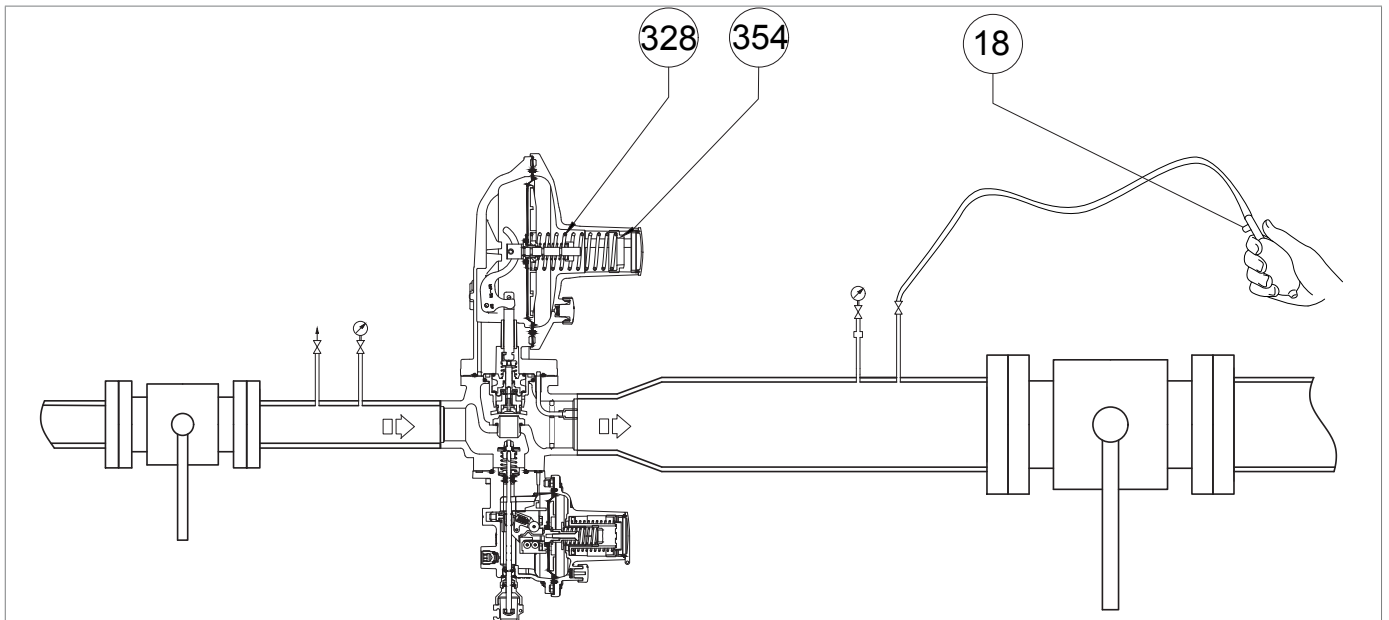
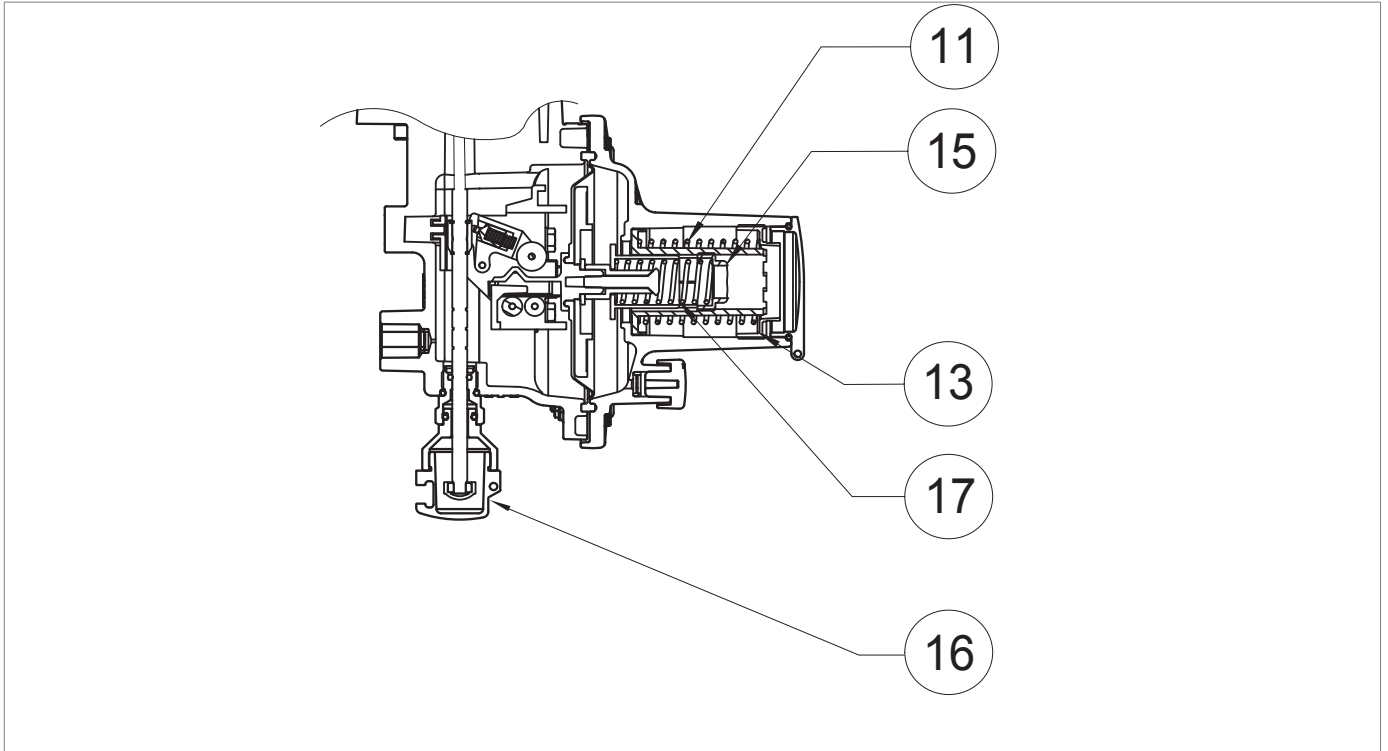
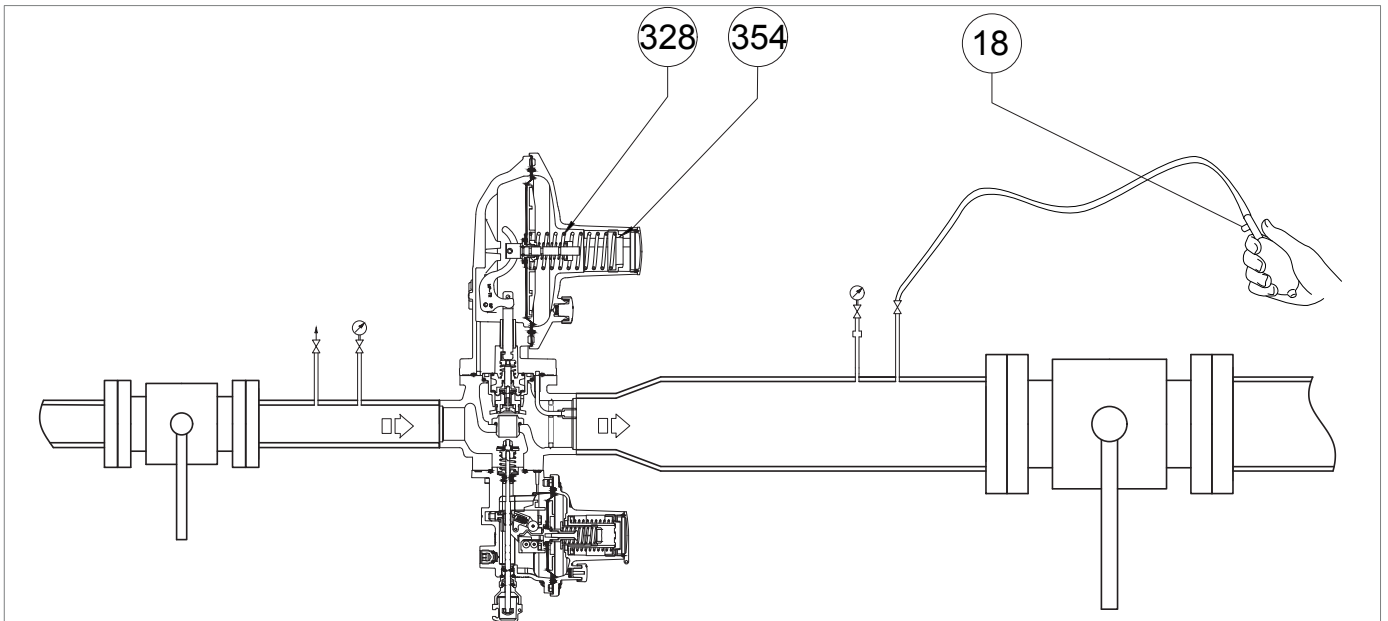

Fig. 8.22. Pressurising with external source for incorporated LA slam-shut valve
Fig. 8.20. Calibration of pressure switch for LA slam-shut valve
Fig. 8.21. Pressurising with external source for incorporated LA slam-shut valve
1	<p>Increase the downstream pressure to the tripping value of the slam-shut valve, connecting an external pressure source to the bleed cock (Fig. 8.20, ref. 6) placed on the downstream pipe, making sure to open an additional bleed cock (Fig. 8.22, ref. 18).</p> <div style="border: 1px solid black; padding: 5px;"> <p>! NOTICE!</p> <p>Check the pressure referring to the downstream pressure gauge (Fig. 8.20, ref. 5).</p> <p>If the slam-shut valve:</p> <ul style="list-style-type: none"> • trips before the expected pressure value: screw in (clockwise) the adjustment ring nut (13) so as to further compress the spring (11); • does not trip at the expected pressure value: unscrew (anti-clockwise) the adjustment ring nut (13) so as to relieve the spring (11). </div>
2	Decrease the pressure of the downstream section by opening the additional bleed cock (Fig. 8.22, ref. 18) to bring it up to the calibration value of the main regulator.
3	Close the additional bleed cock (Fig. 8.22, ref. 18).
6	Disconnect the external pressure source from the bleed cock (Fig. 8.20, ref. 6).
1	Partially open the bleed cock (Fig. 8.20, ref. 6) to the atmosphere and keep it open for the next steps.
2	Turn the adjustment ring nut (Fig. 8.20, ref. 3) of the regulator anti-clockwise to decrease the downstream pressure (Pd) to the minimum pressure required for tripping of the slam-shut valve.
3	<p>If necessary, remove the closing cap (Fig. 8.22, ref. 354) together with the adjustment ring nut and remove the regulation spring (Fig. 8.22, ref. 328).</p> <div style="border: 1px solid black; padding: 5px;"> <p>! NOTICE!</p> <p>Check the tripping pressure value of the slam-shut valve indicated on the downstream pressure gauge (Fig. 8.20, ref. 5).</p> </div>
4	<p>If the slam-shut valve:</p> <ul style="list-style-type: none"> trips before the expected pressure value, unscrew (anticlockwise) the adjustment ring nut (Fig. 8.21, ref. 15), to relieve the spring (Fig. 8.21, ref. 17); does not trip at the expected pressure value, screw in (clockwise) the adjustment ring nut (Fig. 8.21, ref. 15) to further compress the spring (Fig. 8.21, ref. 17).
5	<p>After having checked that the slam-shut valve trips at the preset value, proceed as follows:</p> <ol style="list-style-type: none"> Close the air vent valve (Fig. 8.20, ref. 6) Position the regulation spring (fig. 8.21, ref. 328), the end cap (Fig. 8.22, ref. 354), the adjustment ring nut (Fig. 8.20, ref. 3) Slowly open the upstream shut-off valve (V1) until the downstream pressure value (Pd) reaches the calibration value of the regulator, referring to the downstream pressure gauge (Fig. 8.20, ref. 5) Close the upstream shut-off valve (V1) Slowly and partially open the air vent valve (Fig. 8.20, ref. 6) to decrease the downstream pressure referring to the downstream pressure gauge (Fig. 8.20, ref. 5) until it reaches the minimum pressure tripping value Check the minimum pressure spring for proper calibration by repeating steps 2-3-4 at least three times Calibrate the main regulator referring to par. "8.5 - Regulator commissioning procedure"
7	Turn the adjustment ring nut clockwise (Fig. 8.20, ref. 3) to increase the downstream pressure to the regulator's setpoint.
9	Close the bleed cock (Fig. 8.20, ref. 6).